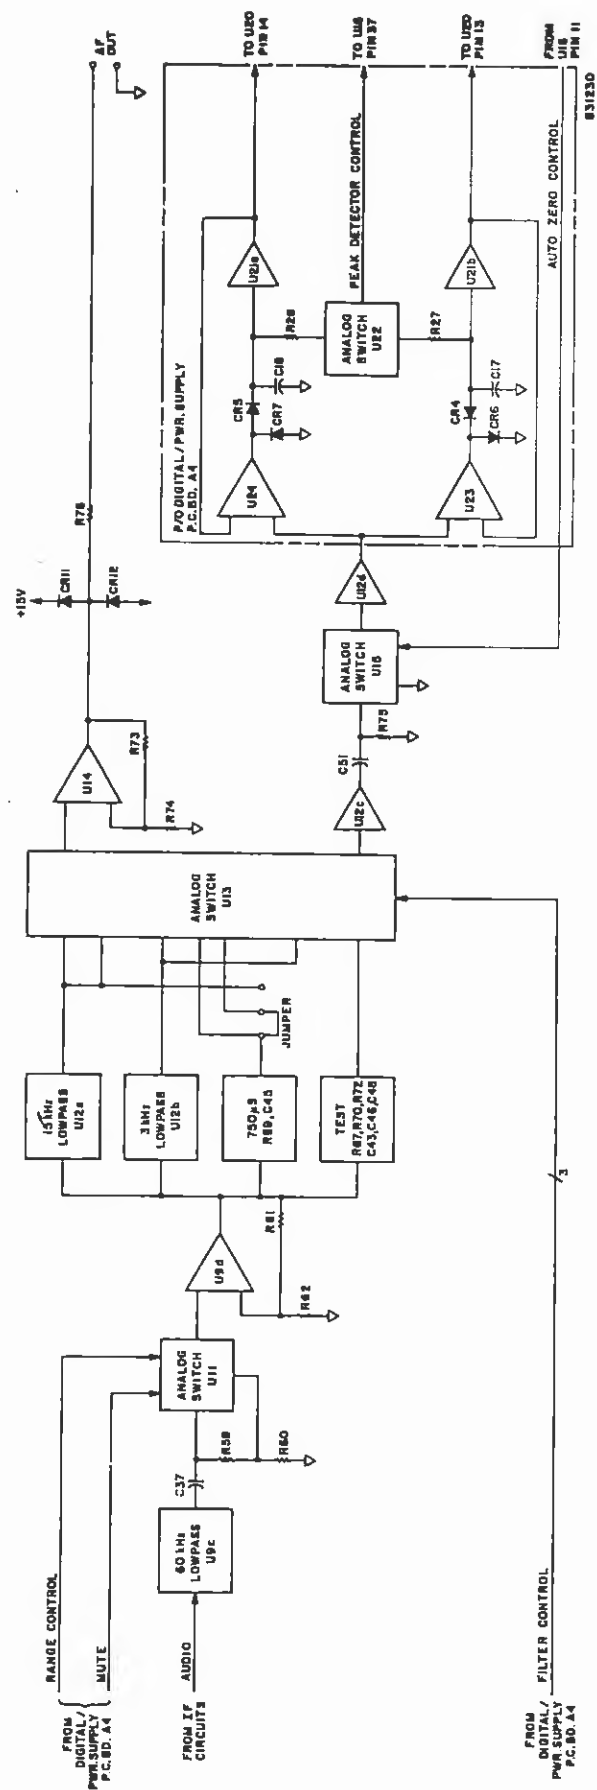

Figure 3-6. A.F. Circuits: Detailed Block Diagram
d. A.F. Circuits. The audio circuits process the recovered modulation signal supplied from the a.m. or the f.m. detector circuits--as determined by the front-panel FUNCTION switch. The recovered signal is filtered and converted to a d.c. level, which is then measured; the result is presented on the front-panel LED display. Refer to Figure 3-6.
- (1) The signal from the output of the a.m.-f.m. switch U10, is filtered by active filter U9c and associated components. This filter is part of a three-pole 60 kHz filter, which removes most of the i.f. component from the recovered signal. The filtered signal is then a.c. coupled to a 20 dB attenuator: R59, R60. CMOS switch U11 selects either the signal, or the attenuated signal, as determined by the front-panel RANGE switch. Additionally, the logic circuitry can program U11 to disconnect the recovered signal in order to prevent audio-circuit overload when the instrument is unlocked.
- (2) The signal is then amplified ($\times 11$) by U9d and is coupled to the 15 kHz filter, the 3 kHz filter, and the 750 μ s de-emphasis network. U12a and associated components form the 15 kHz filter; U16b and associated components form the 3 kHz filter. Both are three-pole Butterworth types. The 750 μ s de-emphasis network is a single RC section: R69, C45. A jumper circuit is provided to give the option of connecting the de-emphasis network either before or after the measuring circuits.
- (3) CMOS switch U13 selects one of the three filters, as determined by the front-panel FILTER switch. In addition, the logic circuitry can program U13 to select--during calibration--a filter consisting of R67, R70, R72, C43, C46 and C48. One of the outputs of U13 is amplified ($\times 2.8$) by U14 and routed to the front-panel AF OUT connector. The other output is buffered by voltage-follower U12c and a.c. coupled to U15, an auto-zero switch. U15 is operated by the logic circuitry to disconnect the recovered signal for a period of time adequate to determine the output of the peak detectors with no input. The switch is then closed, and the modulation signals are connected through buffer U12d to the peak detectors.
- (4) The positive-peak detector consists of U24, U21a, CR1, CR3 and C18. During the positive excursion of the modulating signal, the output of U24 is driven positive; C18 then charges through CR1. U21a buffers the voltage across C18, and adds a small offset. When the output of U21a reaches a value equal to the peak of the waveform plus a small increment, the output of U24 goes negative and thus terminates the charging. The voltage at the output of U21a is then equal to the positive peak of the modulating signal.
- (5) Similarly, U23, U21b, CR4, CR6 and C17 constitute a negative-peak detector. In addition, U22 provides a means for resetting both detectors for auto-zero measurements.